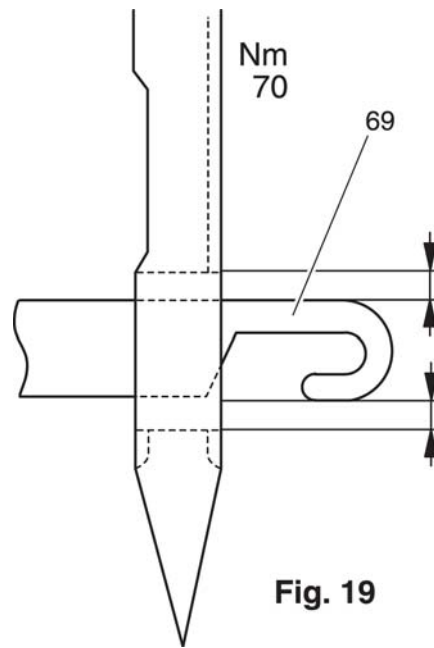

Fig. 19
With the threader lever pushed fully down, prong 69 must pass through in the center between the top and bottom edge of the needle eye of a size 70 needle (fig. 19). The prong must have the same distance to either side of the walls of the needle eye.
- Push threader bracket 72 upward or downward until prong 69 has the same distance from the top and bottom edge of the needle eye (fig. 19).